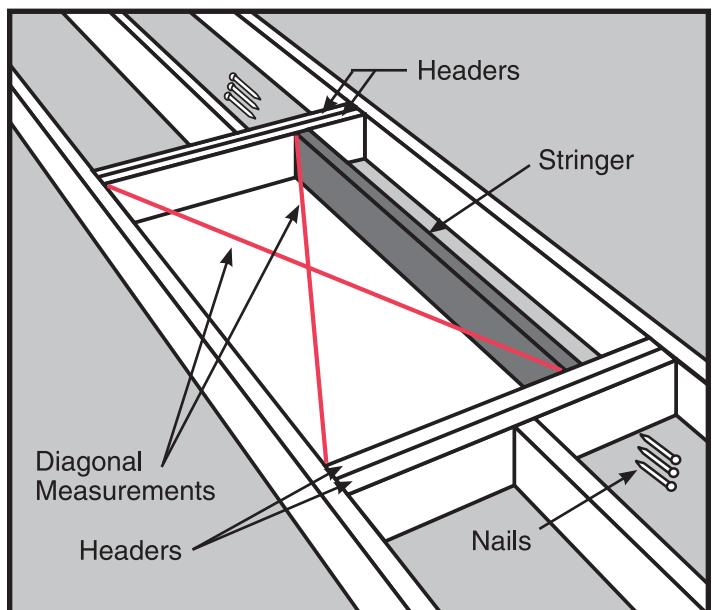

Figure 18
- STEP 4.** Position the stringer(s) along the unframed side(s) of your location (See Figure 18). Check that the inside dimensions of the frame are 22-1/2" x 54" (99210-001).
- STEP 5.** To attach the stringer(s) to the headers, use nails that are long enough to go through both headers and into the stringer at least one inch. Square the stringer(s) to the headers at one end and drive (3) 16d nails through the headers and into the stringer. Check for squareness, then nail the other end. Check the rough opening for squareness by measuring across the diagonals. **The two measurements should be within 1/8" to be considered square** (See Figure 18).